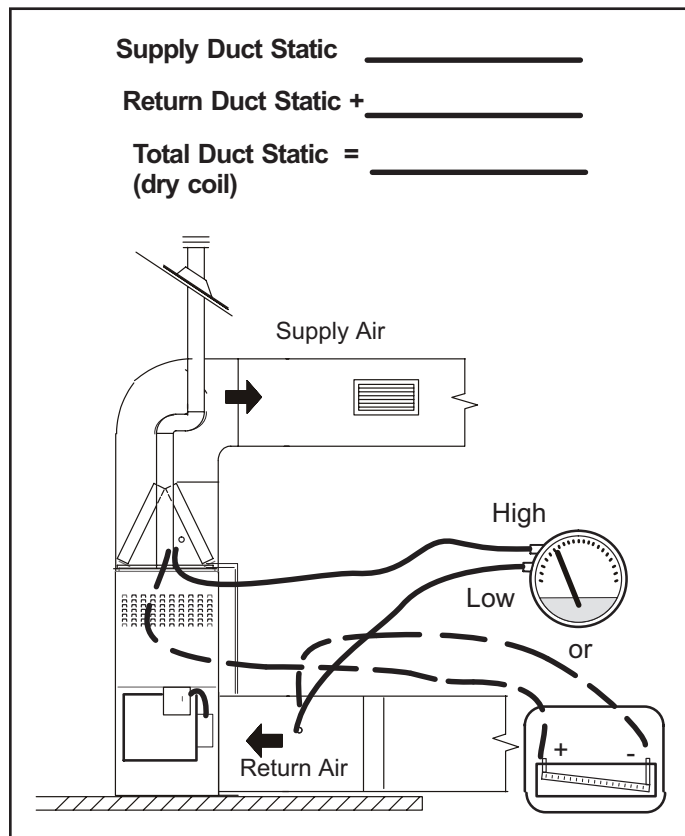

Figure 24. External Static Pressure
1. Tap locations shown in Figure 24.